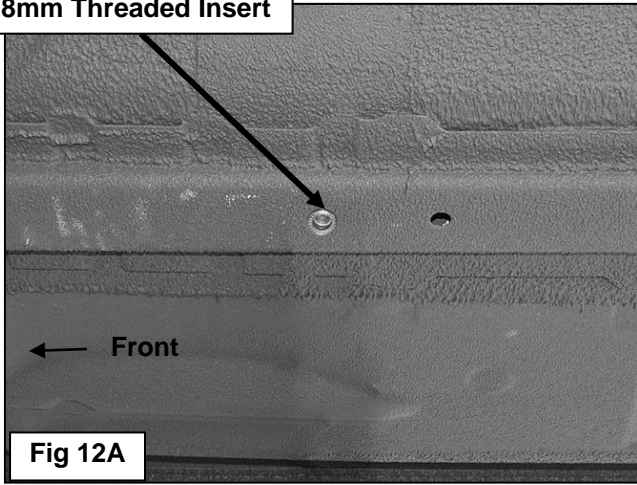

Fig 12A
11. Hold the Insert in place by firmly grasping the handle on the Tool. Turn the Hex Bolt, (tighten), with wrench to expand the Insert in the hole in the frame rail, **(Figures 12A & 12B)**. Once the Insert is fully compressed/expanded, remove the Hex Bolt and Tool from the Insert. **WARNING:** Do not over-tighten the Insert or damage to the part or Insert may result.